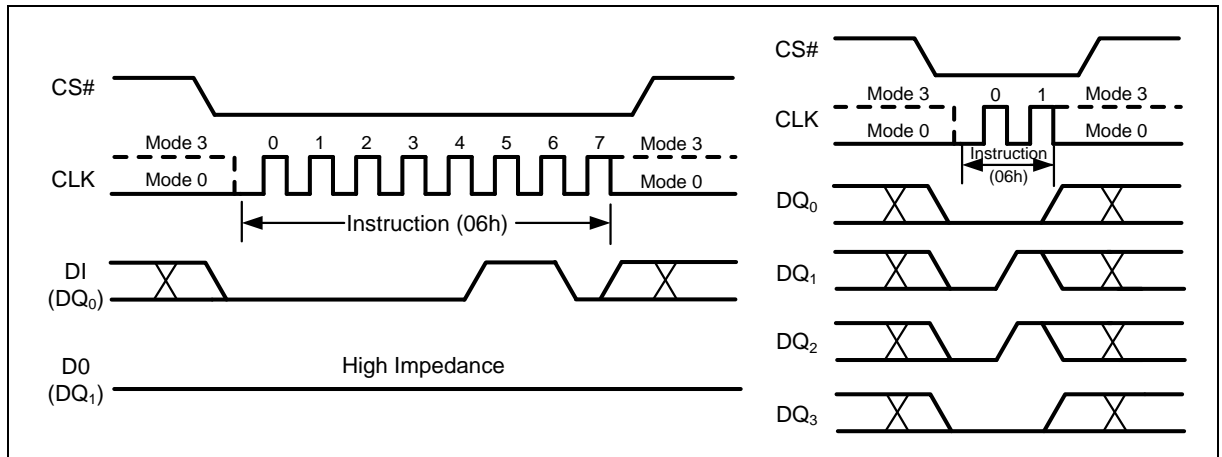

Figure 12 Write Enable Instruction for SPI Mode (left) or QPI Mode (right)
The Write Enable (WREN) instruction (Figure 12) sets the Write Enable Latch (WEL) bit in the Status Register to a 1. The WEL bit must be set prior to every Page Program, Quad Page Program, Sector Erase, Block Erase, Chip Erase, Write Status Register, Erase/Program Security Sectors and Block/Sector Lock/Unlock instruction. The Write Enable (WREN) instruction is entered by driving CS# low, shifting the instruction code "06h" into the Data Input (DI) pin on the rising edge of CLK, and then driving CS# high.